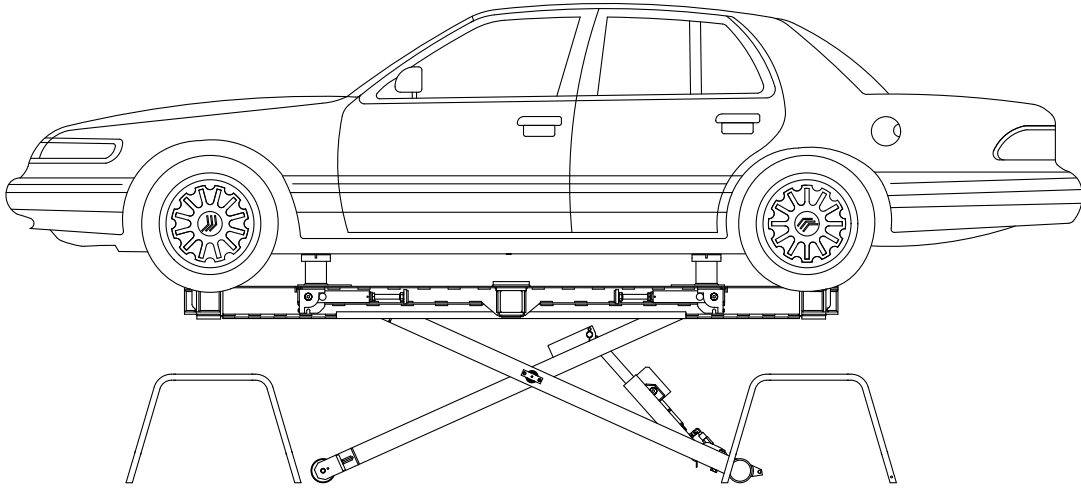

Figure 46
13. Raise the mainframe and Support Stands up to the vehicle and lift the vehicle off of the Wheel Stands by pressing the pump portion of the Lift Pump (see Figure 46).